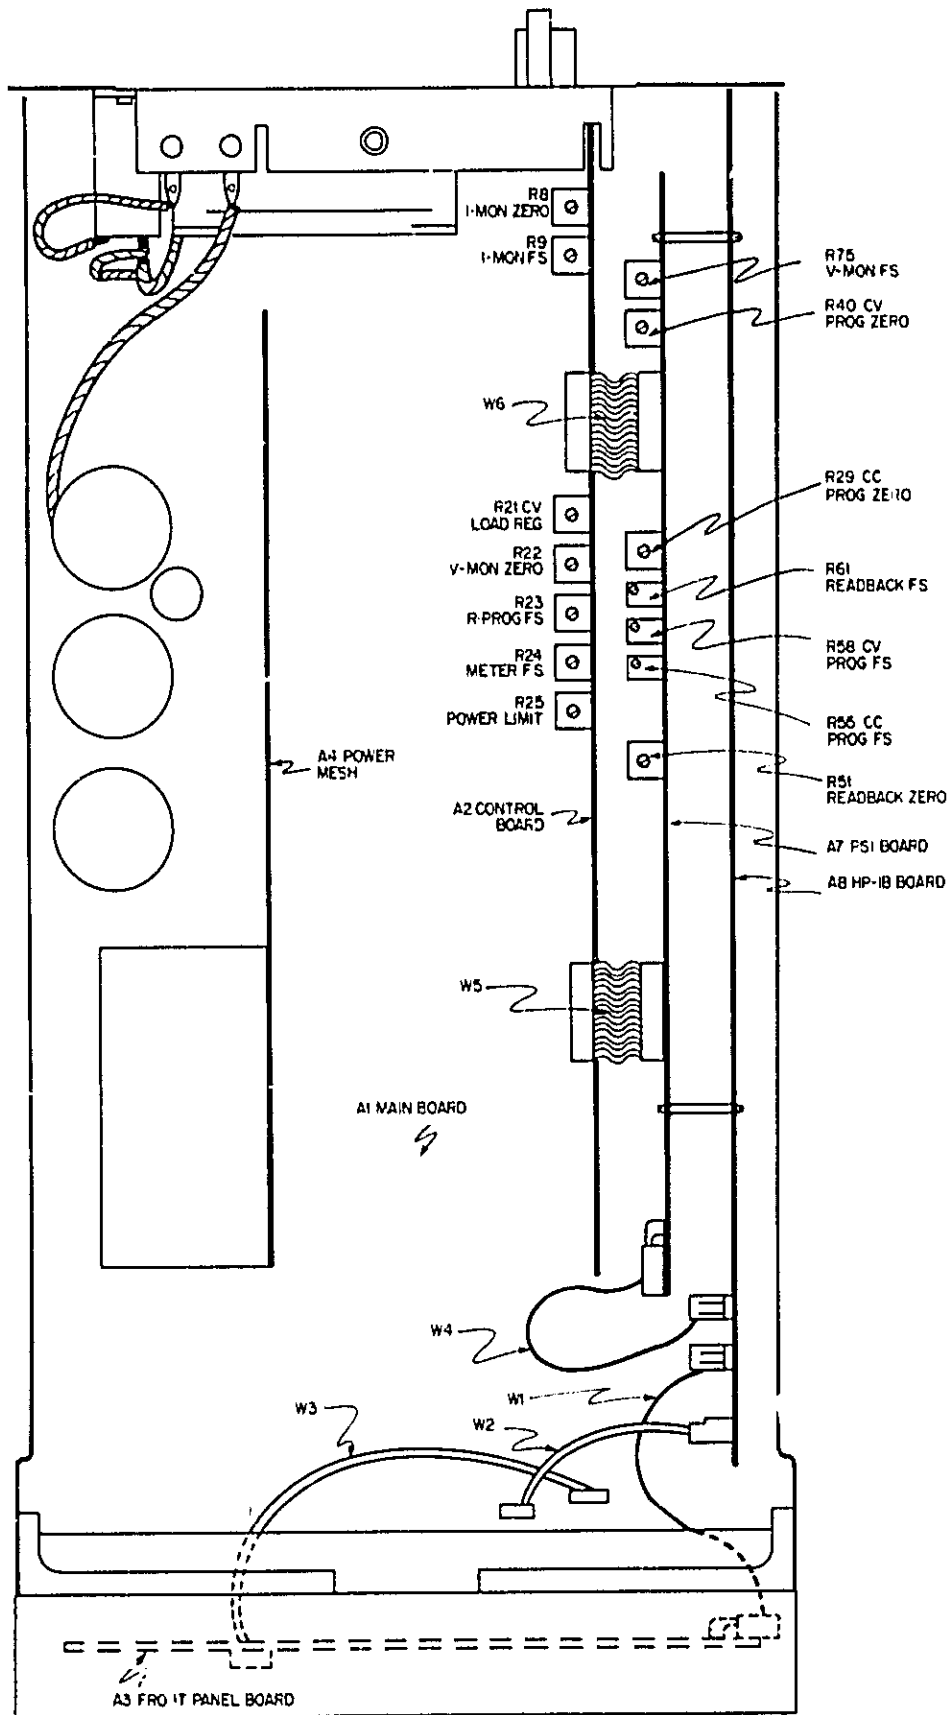

Figure 7-1. Top View, Top Covers Removed
- a. Component location illustrations (Figures 7-1 through 7-7), showing the physical location and reference designators of almost all electrical parts. (Components located on the rear panel are easily identified.)